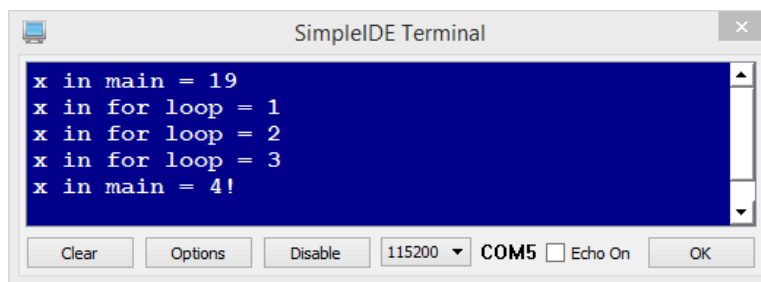

Figure 5-8
- Run the modified program. Its SimpleIDE terminal output should look like Figure 5-8.